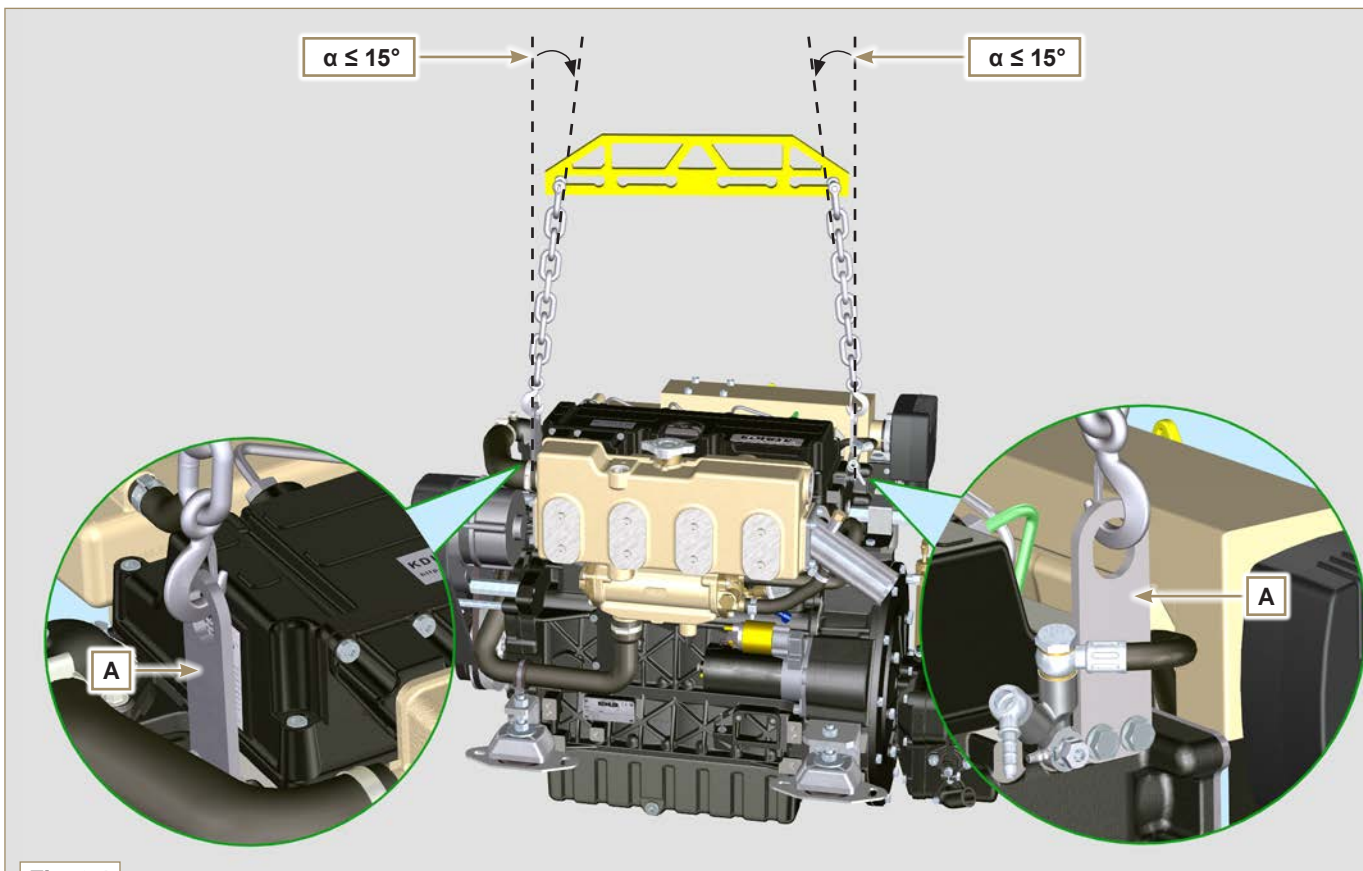

Fig. 3.1
- Only use the eyebolts **A** installed by **Lombardini Marine** to move the engine (**Fig. 3.1**).